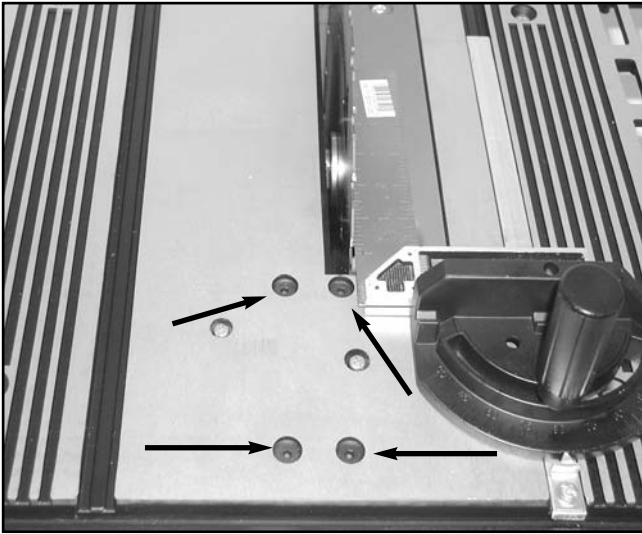

Figure 22. Four hex head screws allow blade adjustment.
5. If the blade and square don't meet properly, loosen screws and adjust the table until the blade and straightedge are properly aligned, front and back. See **Figure 22**.